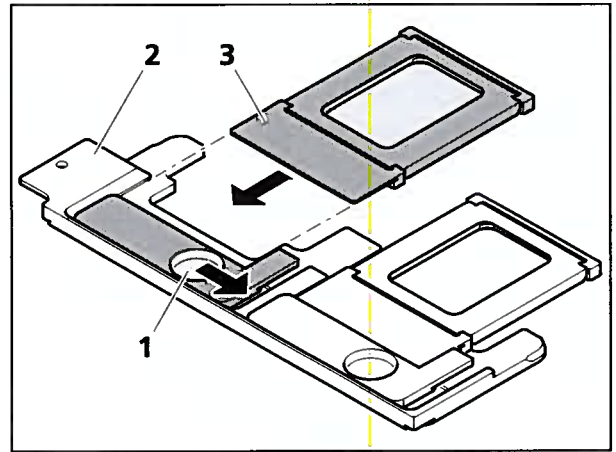

Fig. 4-6 Insert support in mounting frame
- Push the spring-mounted catch (Fig. 4-6/1) to the right and hold.
- Insert the mounting frame support (Fig. 4-6/3) into the mounting frame (Fig. 4-6/2).
- Release the catch (Fig. 4-6/1) so that the mounting frame support is firmly clamped. Ensure the correct stop position.